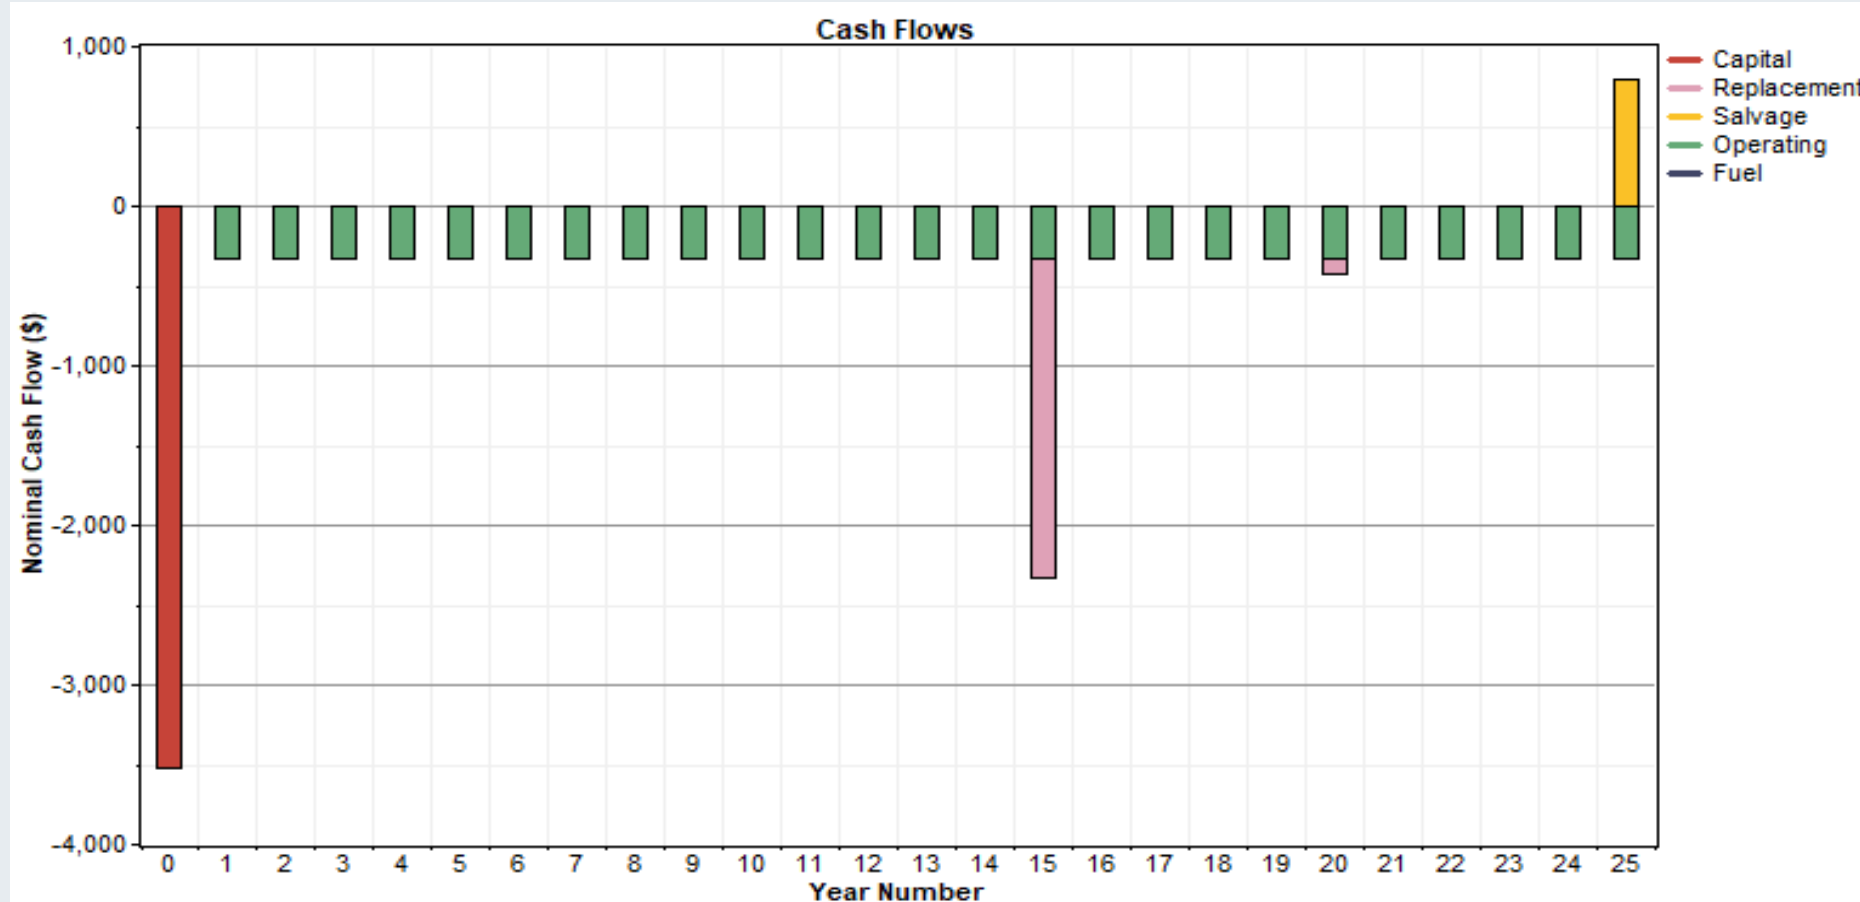

Figure 11 Cash flow summaries of Off-grid system
b. Cash flow summary of life span. The cash flow summary is presented in Fig.11